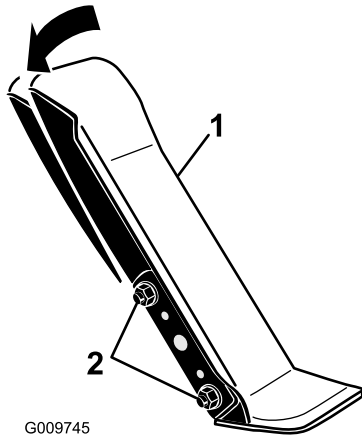

Figure 56
1. Loosen the 2 nuts and bolts securing the left side of the traction pedal to the bracket (Figure 56).
2. Pivot the pedal to the desired operating angle and tighten the nuts (Figure 56).